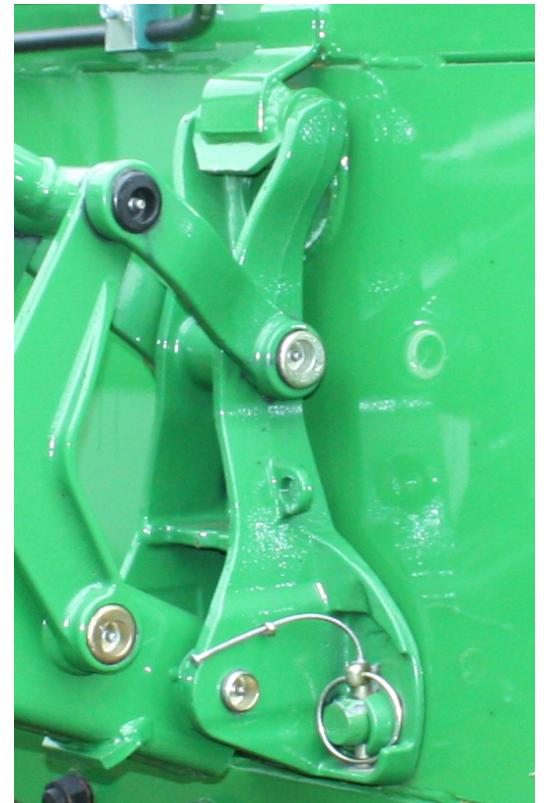

Figure 2
5. Secure the clevis pins into the locking pins on both sides of the attachment. see figure 2.